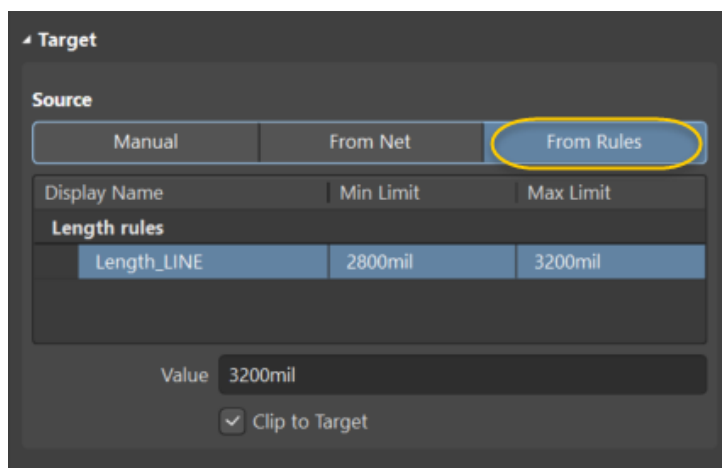

Figure 7. Source length for signal length tuning
32. For the *Source*, under the *Target* section, select **From Rules** as shown in Figure 7.